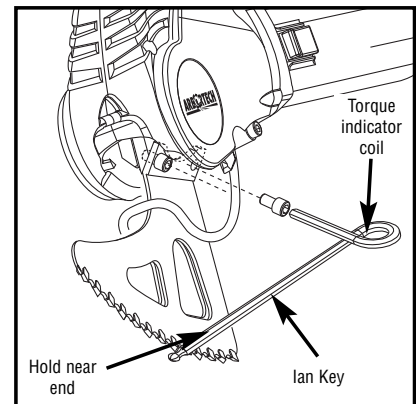

Fig.2
- Use the Hex key supplied to loosen and remove the cap screws securing the blades, then remove the blades as shown in fig.2.
- Select the correct blades for the cutting task and mount each with their cap screws. Verify that the surfaces of the blade mounts, conrod thread and screws are clean and free of grit or lubricant of any kind before mating them. Ensure the guard can be closed before fixing the blades to the conrod (See fig.2).